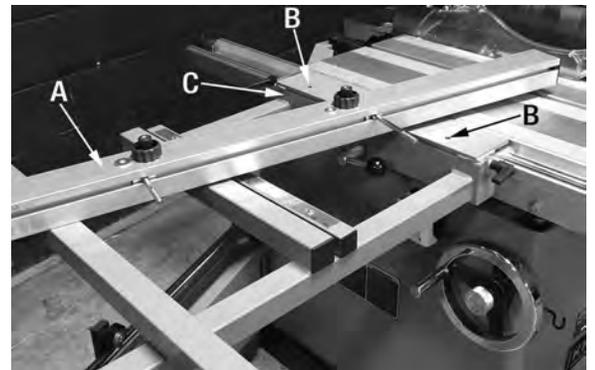
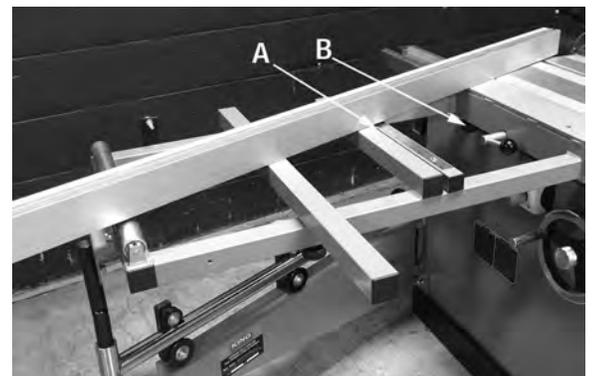

FIGURE 36
FIGURE 37
1. Position the long outrigger table fence (A) Fig.36 on its side. Locate the 2 long bolts and lock knobs. Remove end cap and slide short T-bolt then long T-bolt into the slot under the fence, remove lock knobs and washers as shown in Fig.36.
2. The outrigger table fence can be positioned in two positions, the right end of the fence can be installed in one of two mounting holes (B) Fig.36 on the top of the outrigger table (C), depending on your operation.
3. Position the longest T-bolt in the desired mounting hole (B) Fig.36 and insert the other long T-bolt in between the two beams (A) Fig.37. Secure the fence with the 2 washers and lock knobs (B) removed previously (one lock knob is not visible in Fig.37).